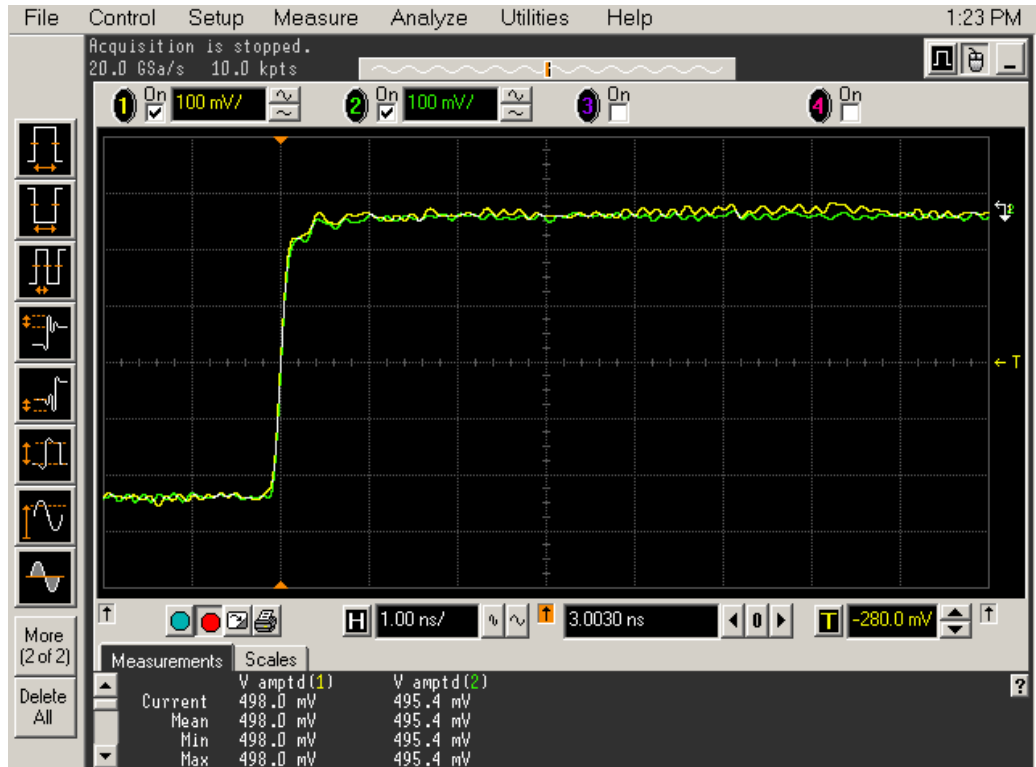

Figure 22 Calibration Probe Waveform Example
- 23 In the Acquisition Setup dialog box enable averaging. When you close the dialog box, you should see waveforms similar to that in Figure 22.